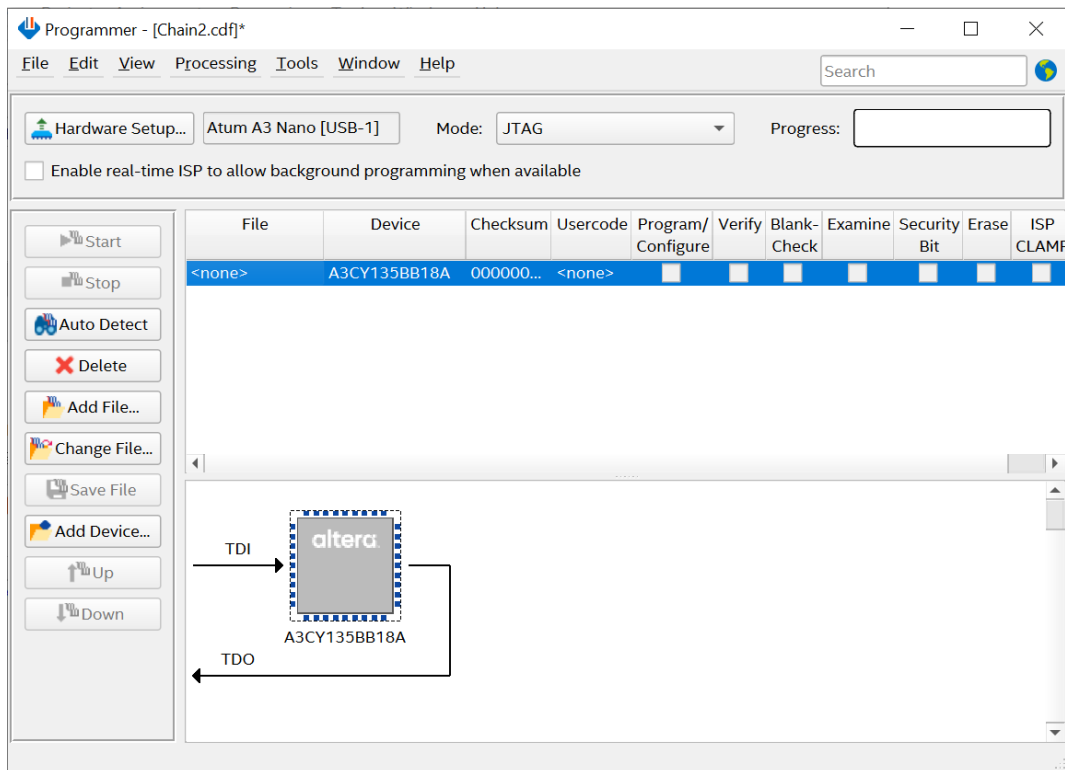

Figure 4-5 JTAG Chain on Atum A3 Nano board
6. The FPGA device of Atum A3 Nano board is detected under Programmer, as shown in **Figure 4-5**.